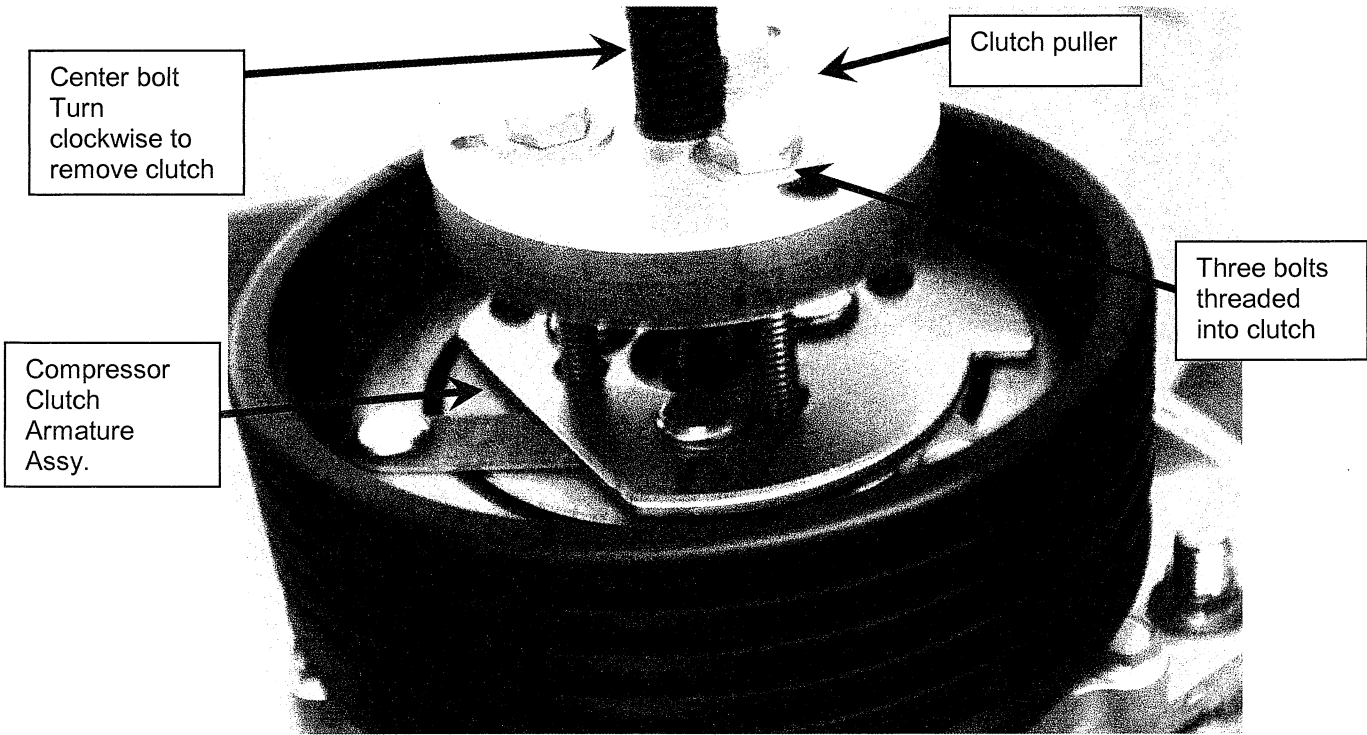

Figure 1.3
5. Hold the compressor clutch armature assembly stationary while removing the retaining nut (9/16" socket required) (See figure 1.3)
6. Remove the compressor clutch armature assembly using a puller. Thread 3 puller bolts into the threaded holes in the armature assembly, and turn center bolt clockwise until the armature assembly comes loose. Remove and discard armature assembly. (See figure 1.3)